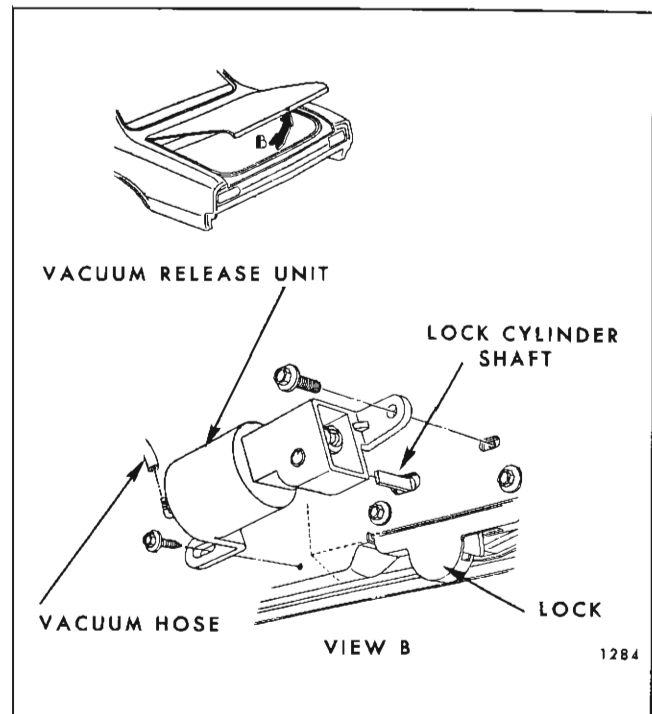

Fig. 2F12—Rear Compartment Lid Vacuum
2. Remove cable support clip attaching screw (clip "A" in Fig. 2F13) and move cable toward left side of body to enable disengaging spring retaining clip "B".